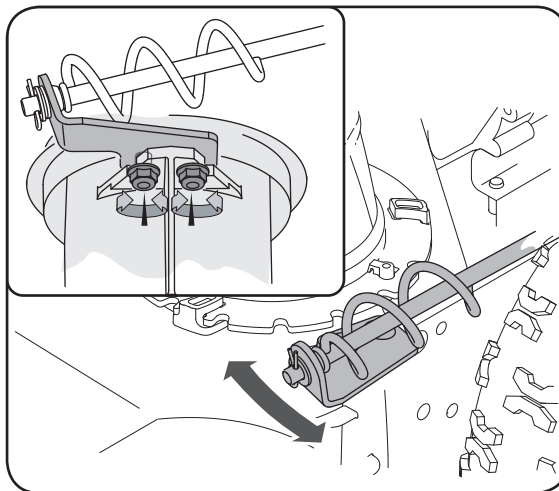

Figure 5-9
1. Loosen the two nuts which secure the chute bracket and reposition it slightly. See Figure 5-9.